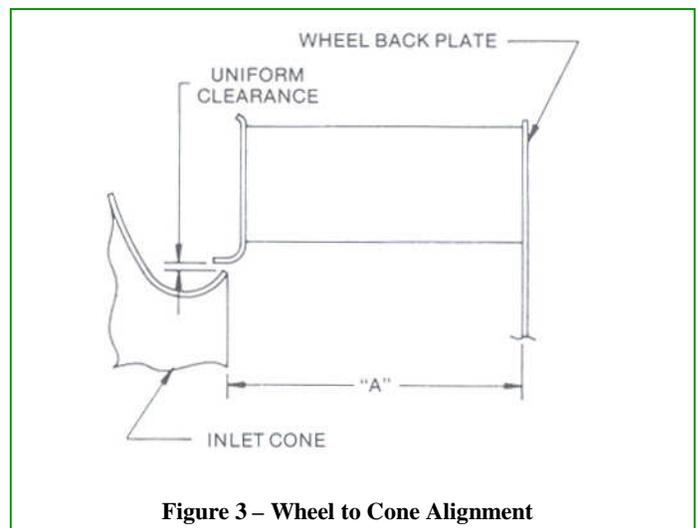

Figure 3 - Wheel to Cone Alignment
**Check wheel and inlet cone alignment.** See Figure 3. Components may be out of position due to routine cleaning or painting or the wheel could have shifted during shipment. For backward inclined fans, the relation of wheel to inlet cone is very critical. Even a quarter of an inch can have a major impact. The fan's installation and maintenance literature shows the proper positioning of the wheel to the inlet cone ("A" dimension) or inlet plate.